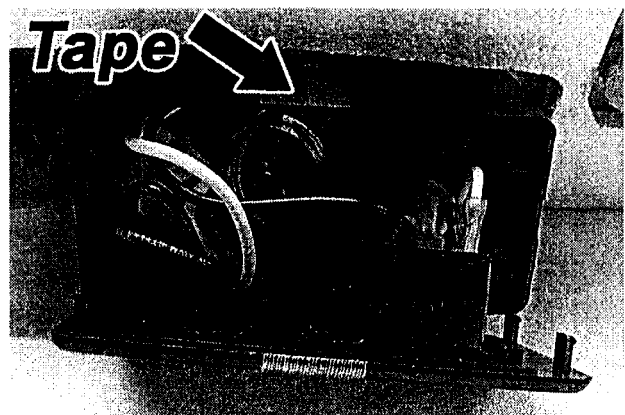

Fig. 2
5. Cut the tape that holds the electrical junction box cover on the back of the water heater. Remove the cover. (Fig 2)
6. Pull the 120-volt wires out of the water heater electrical junction box (Fig 2).